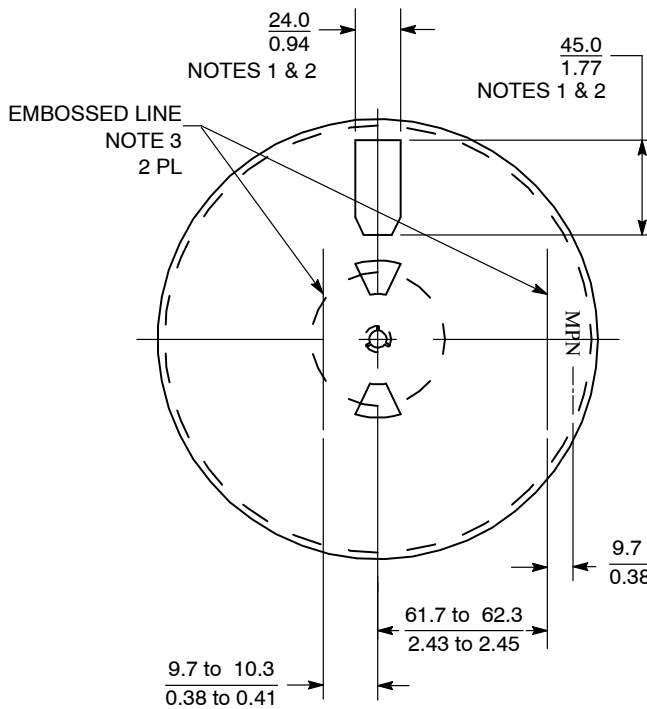

Figure 48. Front View of 178 mm (7.0 in) Reel
- If there are any flange openings on the front side of the 178 mm (7.00 in) reel they must be designed in locations so that two of the 41.3 mm (1.65 in) **onsemi** barcode labels can be applied parallel to each other as in Figure 48.
- Flange opening on the front and the back of the reel are a supplier option but must meet all of the requirements in Note 1. The preferred size for the 176 mm (7.0 in) reel is shown in Figure 48.
- The embossed lines on the reel are a option. If the lines are used they must be located as in Figure 48 and 49. They must be a minimum 38 mm (1.50 in) long. The thickness is a manufacturer's option and not to be used for inspection criteria.